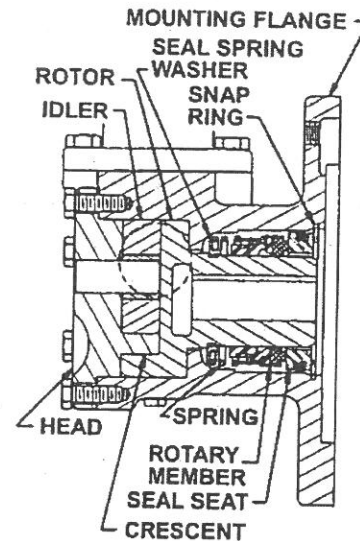

FIGURE 9
To Reassemble Model G475 or GG475 Mechanical Seal Pumps: see Figure 9)
Note the correct position of the idler and crescent (See Figure 9 and Disassembly Step 2). Tighten the head capscrews and then check the end clearance.
- INSTALL THE MECHANICAL SEAL. Slide the seal spring washer over the rotor hub as far as it will go. Flush the rotor hub and seal housing bore with light oil (not grease) and assemble the spring, rotary member and seat of the mechanical seal in position, refer to Figure 9.